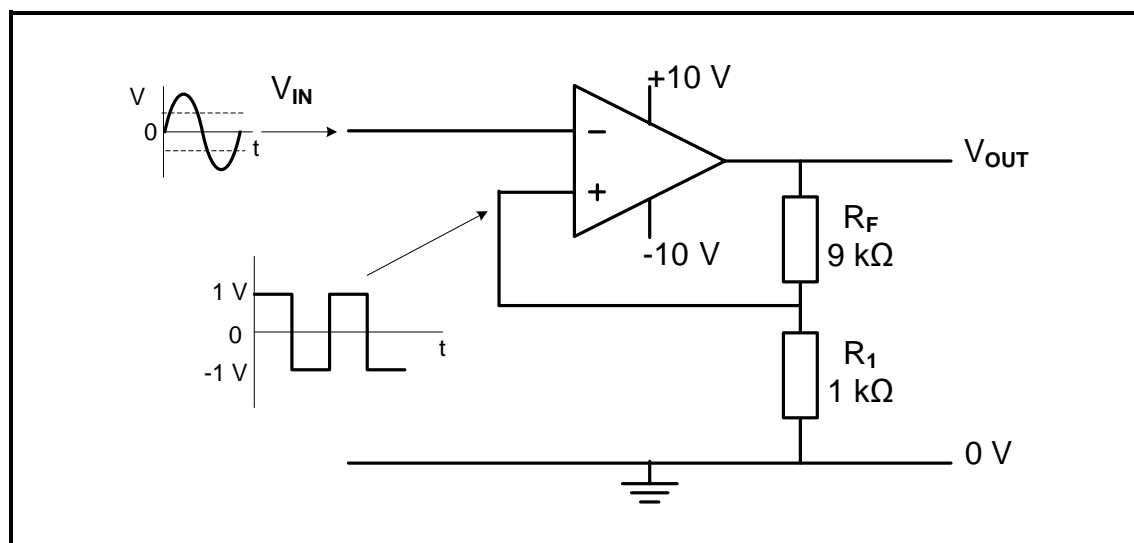

FIGURE 3.4: SCHMITT TRIGGER
3.4 Refer to FIGURE 3.4 below and answer the questions that follow.